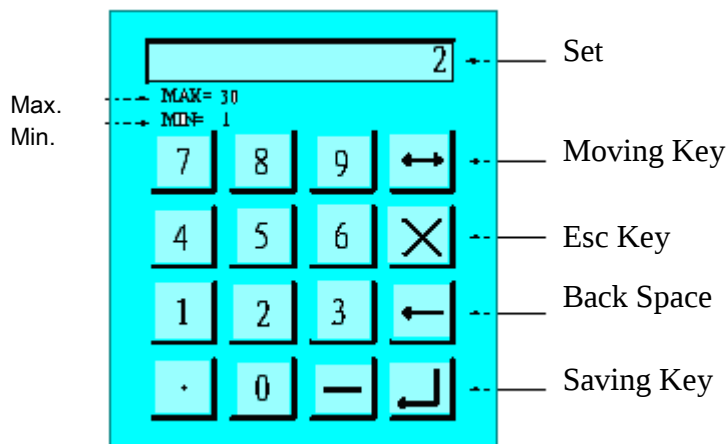

Figure 4
2、 Output time set: touch the # # S below output time, when heard signal, the figure key-board will be shown on the screen (same with Figure 4). Then you can set the time according to A6.
3、 Duration time set: touch # # S below duration time, when heard signal, the figure key-board will be shown on the screen (same with Figure 4). Then you can set the time according to A6.